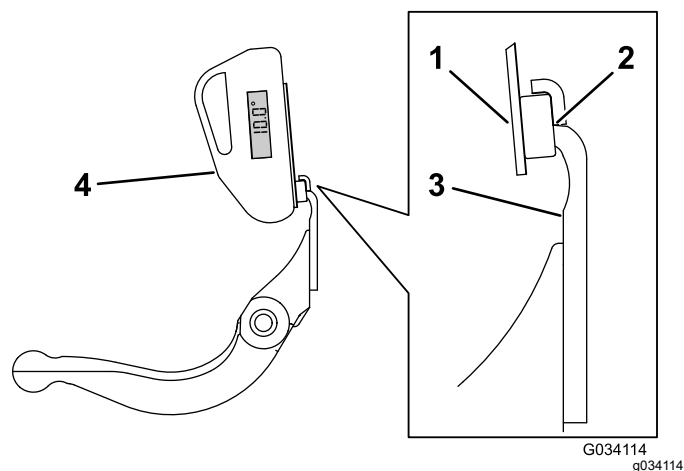

**Figure 23**
1. Place the angle indicator on the bottom side of the bedknife as shown in Figure 23.